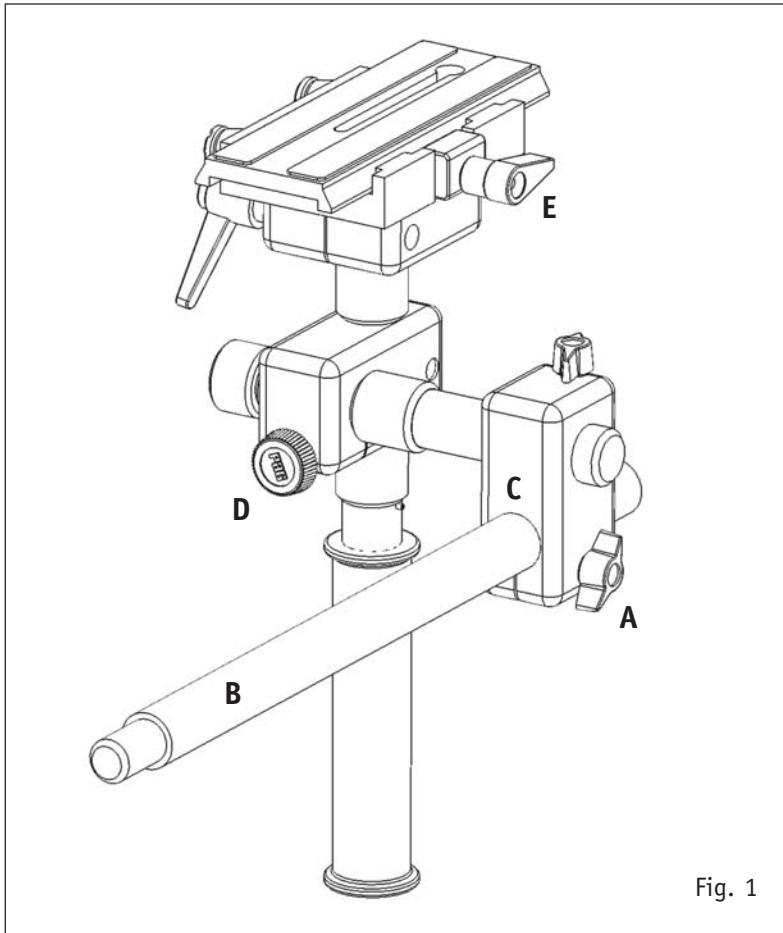

Fig. 1
Refer to Fig. 1 - Loosen wingnut **A** and insert rod **B** into block **C**, at the angle shown. Lock wingnut **A** but do not overtighten.
1. First, remove the sliding plate by turning the small black lever **E** counter-clockwise (refer to Fig. 1).
#### **Step 5 - Tilting (refer to Fig. 1)**